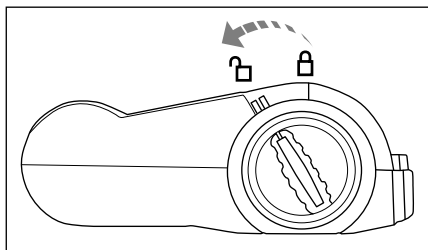

Fig. 7
- 2) Unlock the rotary brush **18** by turning the rotary brush release **17** towards the symbol  (open) (Fig. 7).